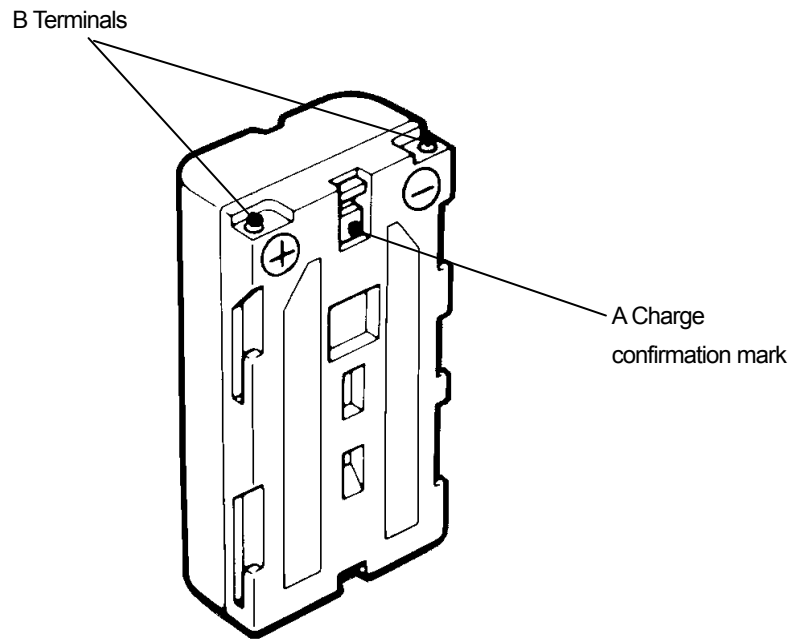

Figure 3-28 Battery Pack
Use the green charging check mark (see Figure 3-28 A) to check if the battery pack has been used after being charged.
- When using the battery pack, be careful that any foreign matters like dust or sand do not get into the terminals (see Figure 3-28 B). If foreign matters have got into the terminals, remove them completely with soft, pointed sticks, and repeat mounting/dismounting it on/from the battery charger several times.